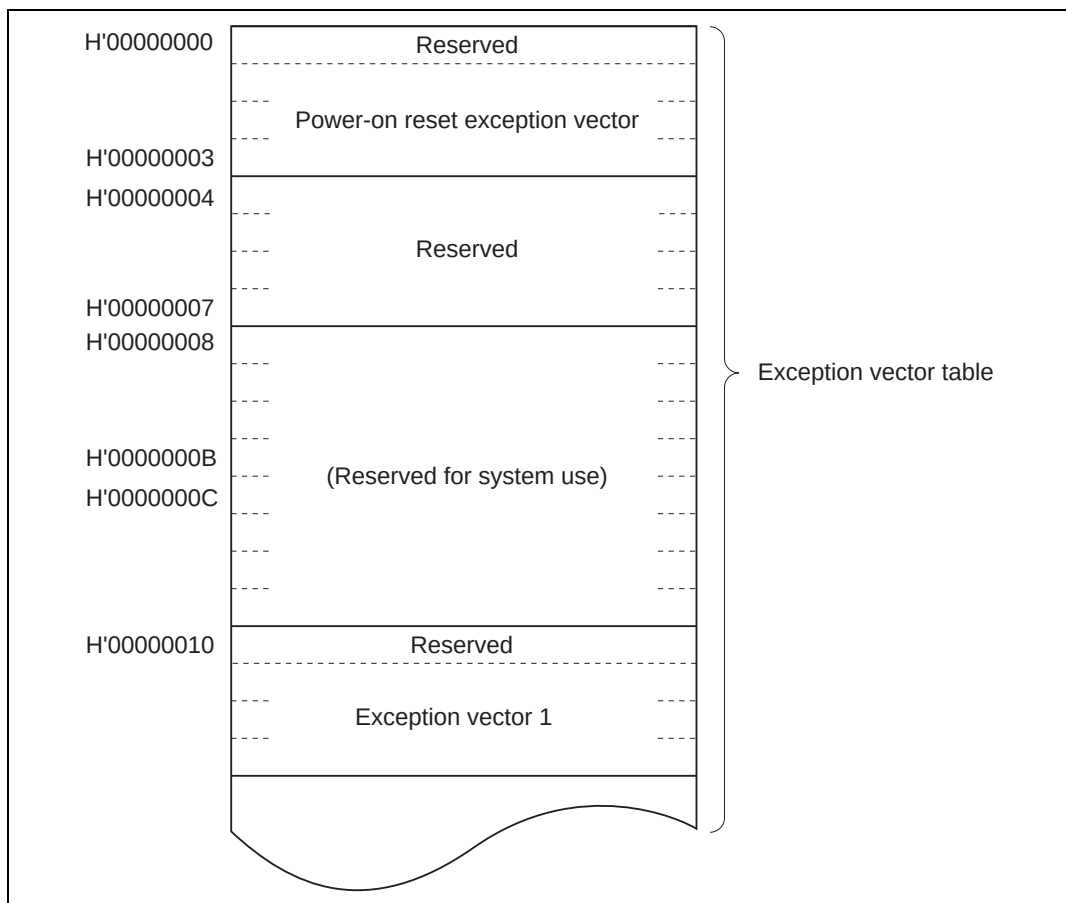

**Figure 2.1 Exception Vector Table (Advanced Mode)**
**Exception Vector Table and Memory Indirect Branch Addresses:** In advanced mode the top area starting at H'00000000 is allocated to the exception vector table in units of 32 bits. In each 32 bits, the upper 8 bits are ignored and a branch address is stored in the lower 24 bits (figure 2.1). For details of the exception vector table, see section 4, Exception Handling.